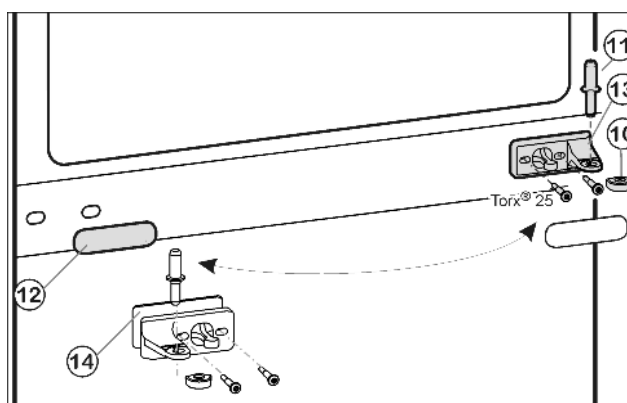
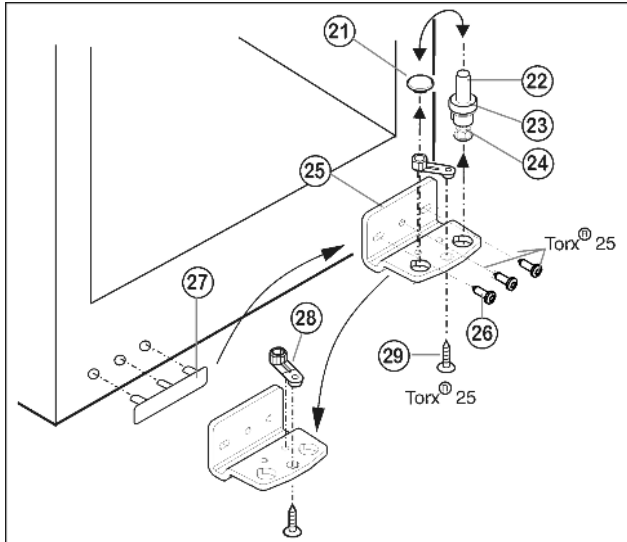

Fig. 5
Fig. 6
- ▶ Draw the middle bearing pin Fig. 5 (11) out of the turn hinge and lower door.
- ▶ Remove the plastic cap Fig. 5 (10).
- ▶ Unscrew the middle turn hinge (2x Torx® 25). Fig. 5 (13)
- ▶ Carefully detach the cover panel *Fig. 5 (12)*.
- ▶ Turn the middle turn hinge *Fig. 5 (13)* with the washer *Fig. 5 (14)* through 180° and screw it firmly into place on the new hinge side (**with 4 Nm**).
- ▶ Turn the cover panel *Fig. 5 (12)* through 180° and snap it into place again on the new handle side.
- ▶ Lift out the bearing pin *Fig. 6 (22)* together with washer *Fig. 6 (23)* and foot *Fig. 6 (24)*.
- ▶ Lift off the stopper *Fig. 6 (21)*.
- ▶ Unscrew *Fig. 6 (26)* the turn hinge *Fig. 6 (25)*.
- ▶ Unscrew *Fig. 6 (29)* the bearing element *Fig. 6 (28)*, transfer it to the opposite location hole of the turn hinge and screw it firmly into place.
- ▶ Carefully lift off the cover on the handle side *Fig. 6 (27)* and transfer it to the opposite side.
- ▶ Screw the turn hinge *Fig. 6 (25)* firmly into place on the new hinge side, possibly using a cordless screwdriver (**with 4 Nm**).
- ▶ Re-insert the stopper *Fig. 6 (21)* into the other hole.
- ▶ Re-insert the bearing pin *Fig. 6 (22)* together with washer and foot. In so doing, pay attention that the locating lug points backwards
- ▶ Place the lower door from above onto the lower bearing pin *Fig. 6 (22)*.
- ▶ Place the plastic cap *Fig. 5 (10)* back onto the middle turn hinge *Fig. 5 (13)*.
- ▶ Place the middle bearing pin *Fig. 5 (11)* in the lower door, on the new hinge side, through the middle turn hinge *Fig. 5 (13)*.
- ▶ Place the upper door on the middle bearing pin *Fig. 5 (11)*.
- ▶ If necessary, align the doors to the appliance housing by way of the two oblong holes in the bottom turn hinge *Fig. 6 (25)* and middle turn hinge *Fig. 5 (13)*. To do so, unscrew the middle screw in the bottom turn hinge *Fig. 6 (25)*.